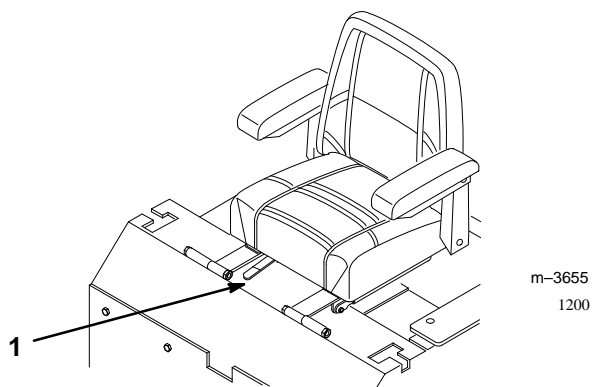

Figure 14
1. To adjust, move the lever sideways to unlock seat (Fig. 14).